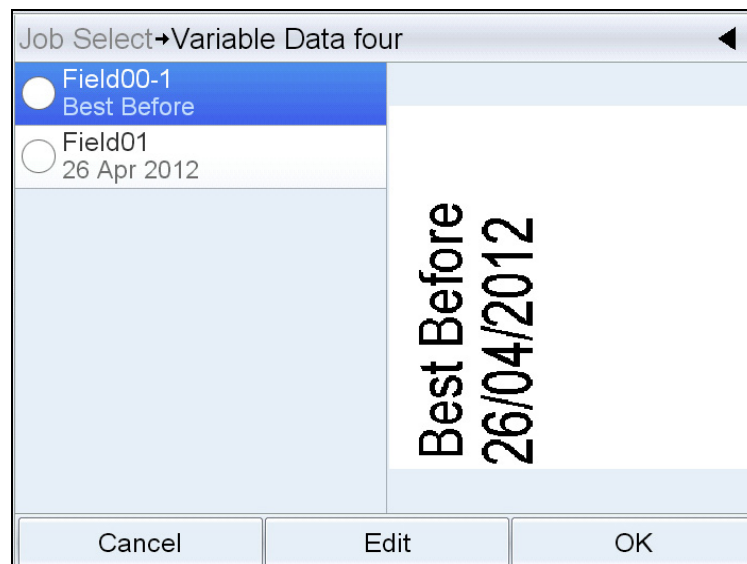

Figure 6-22: Default Data Window
- 2 Touch the required field from the list to select it (the first one in the list is automatically selected). The default data for that field appears in the preview window (Figure 6-22).